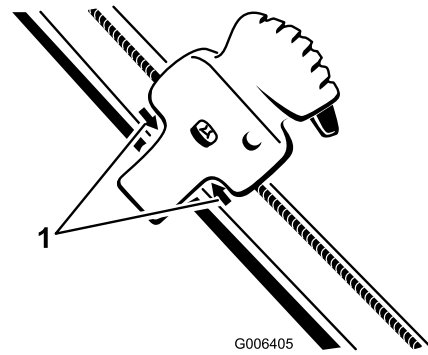

Figure 39
2. Position the Quick Shoot control between the two arrows located on the right hand side of the upper handle (Figure 39).